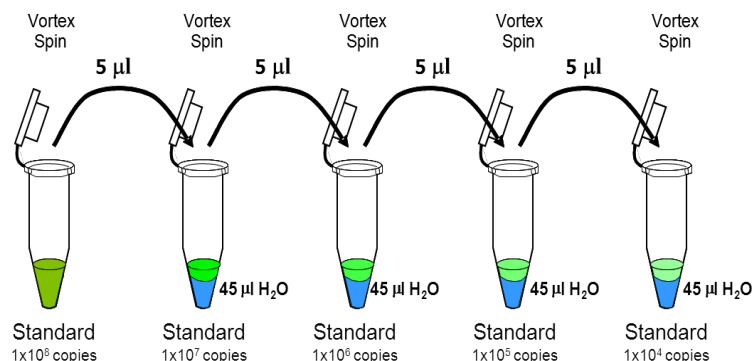

Figure 1. Four serial standard dilutions are made from Species Standard to perform two standard curves.
01. Thaw a vial of Species Standard and prepare four 1:10 serial dilutions of this standard (see Figure 1). This process results in the quantitative standards with which the samples can be compared.